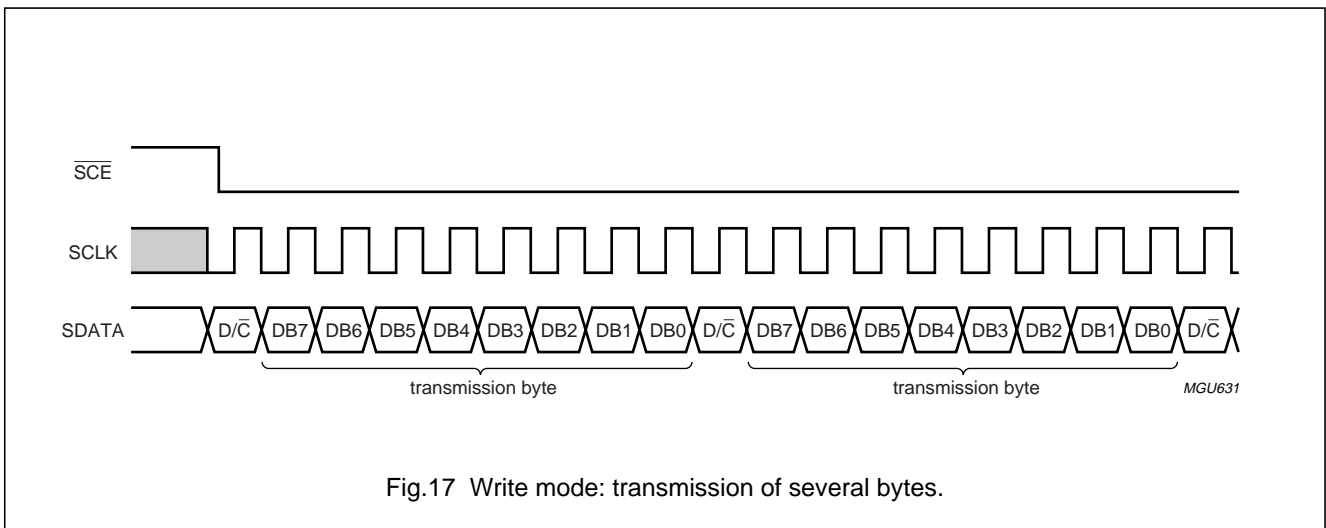

Fig.17 Write mode: transmission of several bytes.
- If \overline{SCE} stays LOW after the last bit of a command/data byte, the serial interface is ready for the D/\overline{C} bit of the next byte at the next rising edge of SCLK (see Fig.17)